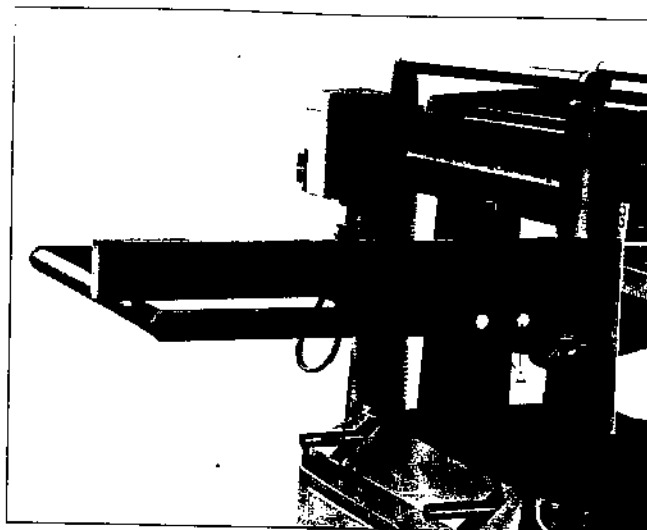

Fig. 17
Loosen the screws (A) and washer (B) Fig. 17 to move the table extension roller to the proper position, then tighten the screws.